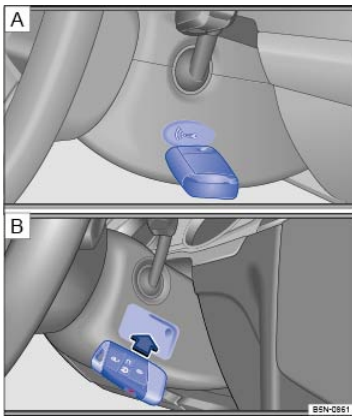

Fig. 114 Hold the remote control vehicle key to the right of the steering column: Emergency starting feature.
- Hold the remote control vehicle key to the right of the steering column trim immediately after pressing the starter button ⇒ Fig. 114 **A** or **B**.